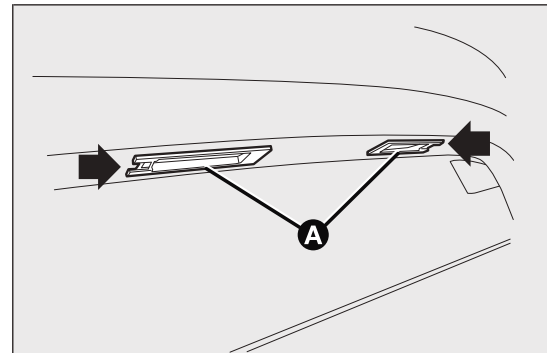

fig. 154
- operate in the point indicated by the arrows and remove the lens units A fig. 154;